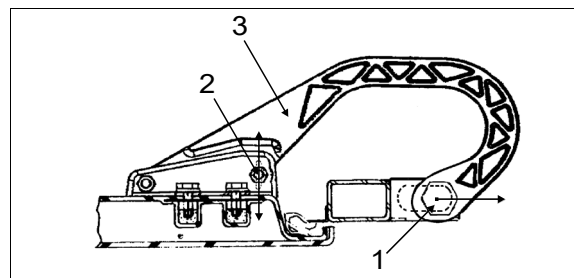

FIGURE 74: DOOR HINGE
2. Loosen nut (1, Figure 74).
3. Move part (3, Figure 74) as shown in figure for "LEFT or RIGHT" adjustment.
4. Tighten nut (1, Figure 74).
5. Loosen nut (2, Figure 74).